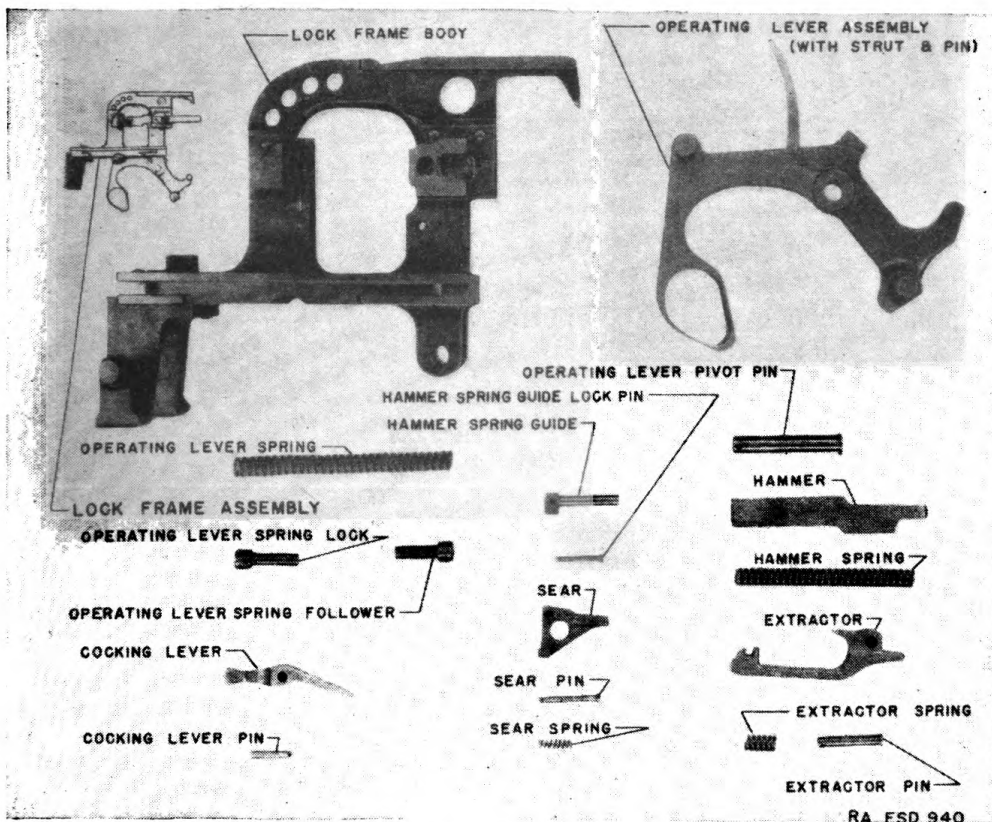

FIGURE 23.—Lock frame.
Q. Point out the various parts shown in figure 23. A. See figure 23.
Q. Explain how to remove and replace the lock frame. A. See figure 23.
Q. Explain how to disassemble and assemble the lock frame. A. See figure 23.